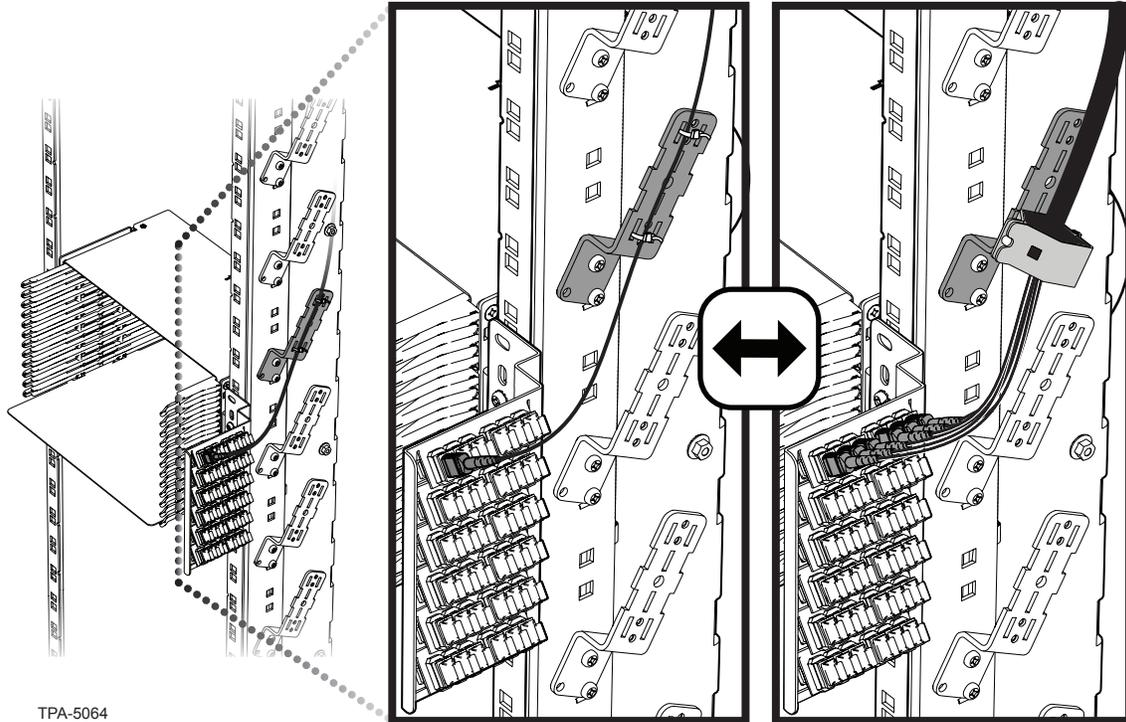

Figure 9
- Step 5:** Mate connectors into the adapters beginning with the top outside adapter (Figure 9).